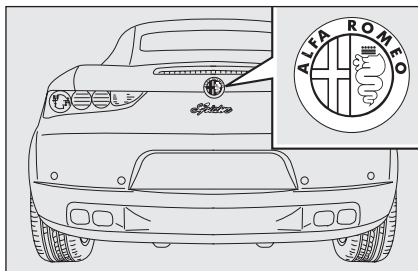
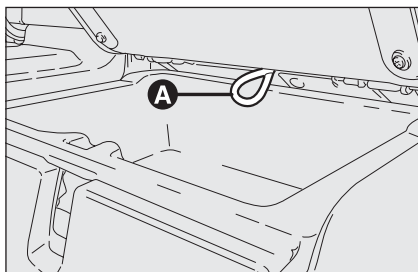

fig. 64
fig. 65
- ☐ open the boot by pressing button **A**-fig. 64 or, if this is not possible, open the oddment compartment set behind the left seat and operate the manual boot opening cable **A**-fig. 65;